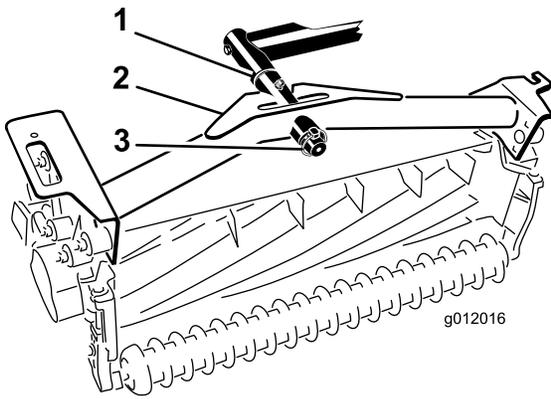

Figure 21
- Slide the cutting unit carrier frame onto the pivot rod and secure it with a lynch pin (Figure 21).